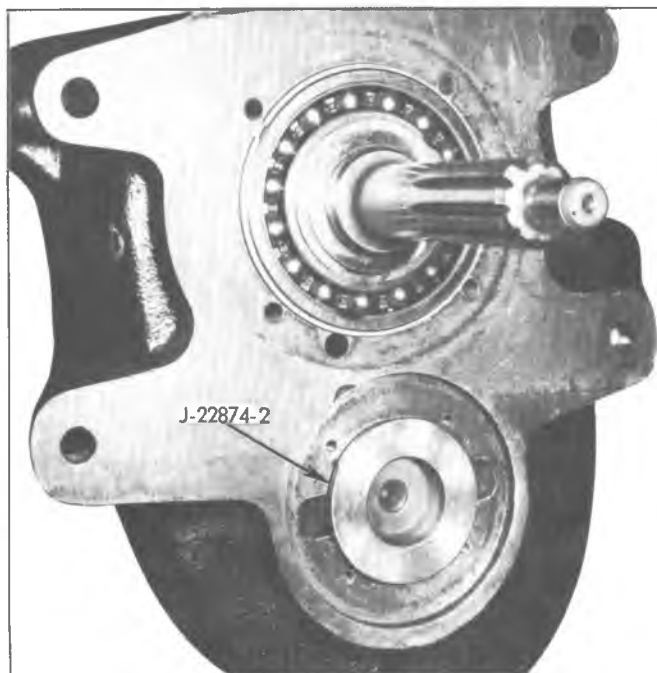

Fig. 24Q-Counter gear Front Support Tool
8. Install Tool J-22874-2 in counter gear front bearing opening in case to support counter gear and rotate case onto front end (fig. 24Q).